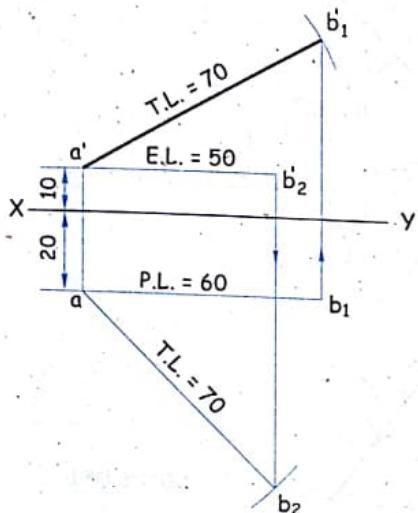

FIG. 8.24 (a).
**Stage I :** Refer figure 8.24 (a).